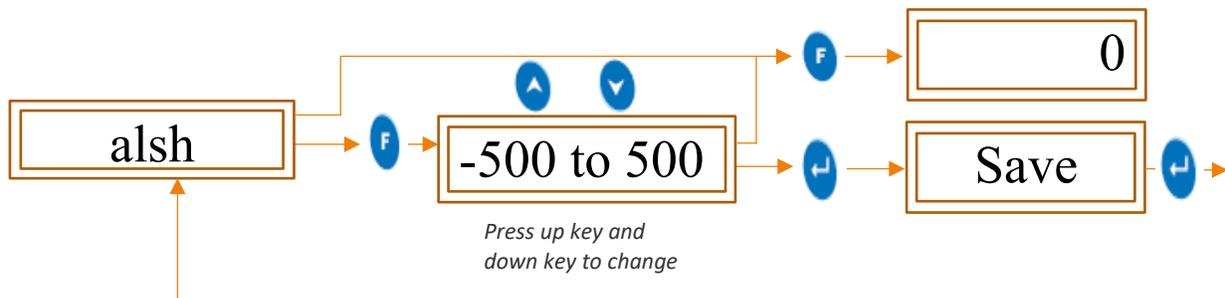

Figure 14 ALSH (Alarm set point high)
- To set the Alarm set point high, follow the procedure shown in figure 14, by pressing the appropriate buttons given in the front panel of the Device.